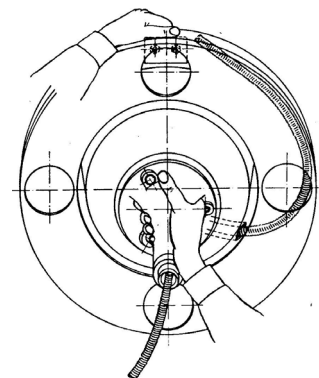

FIG. 13
4. Allow the inner drum to rotate freely in a clockwise direction as you feed sufficient cable through the distributor arm into the external drum to position the cable within the external drum as illustrated in Figure 13.